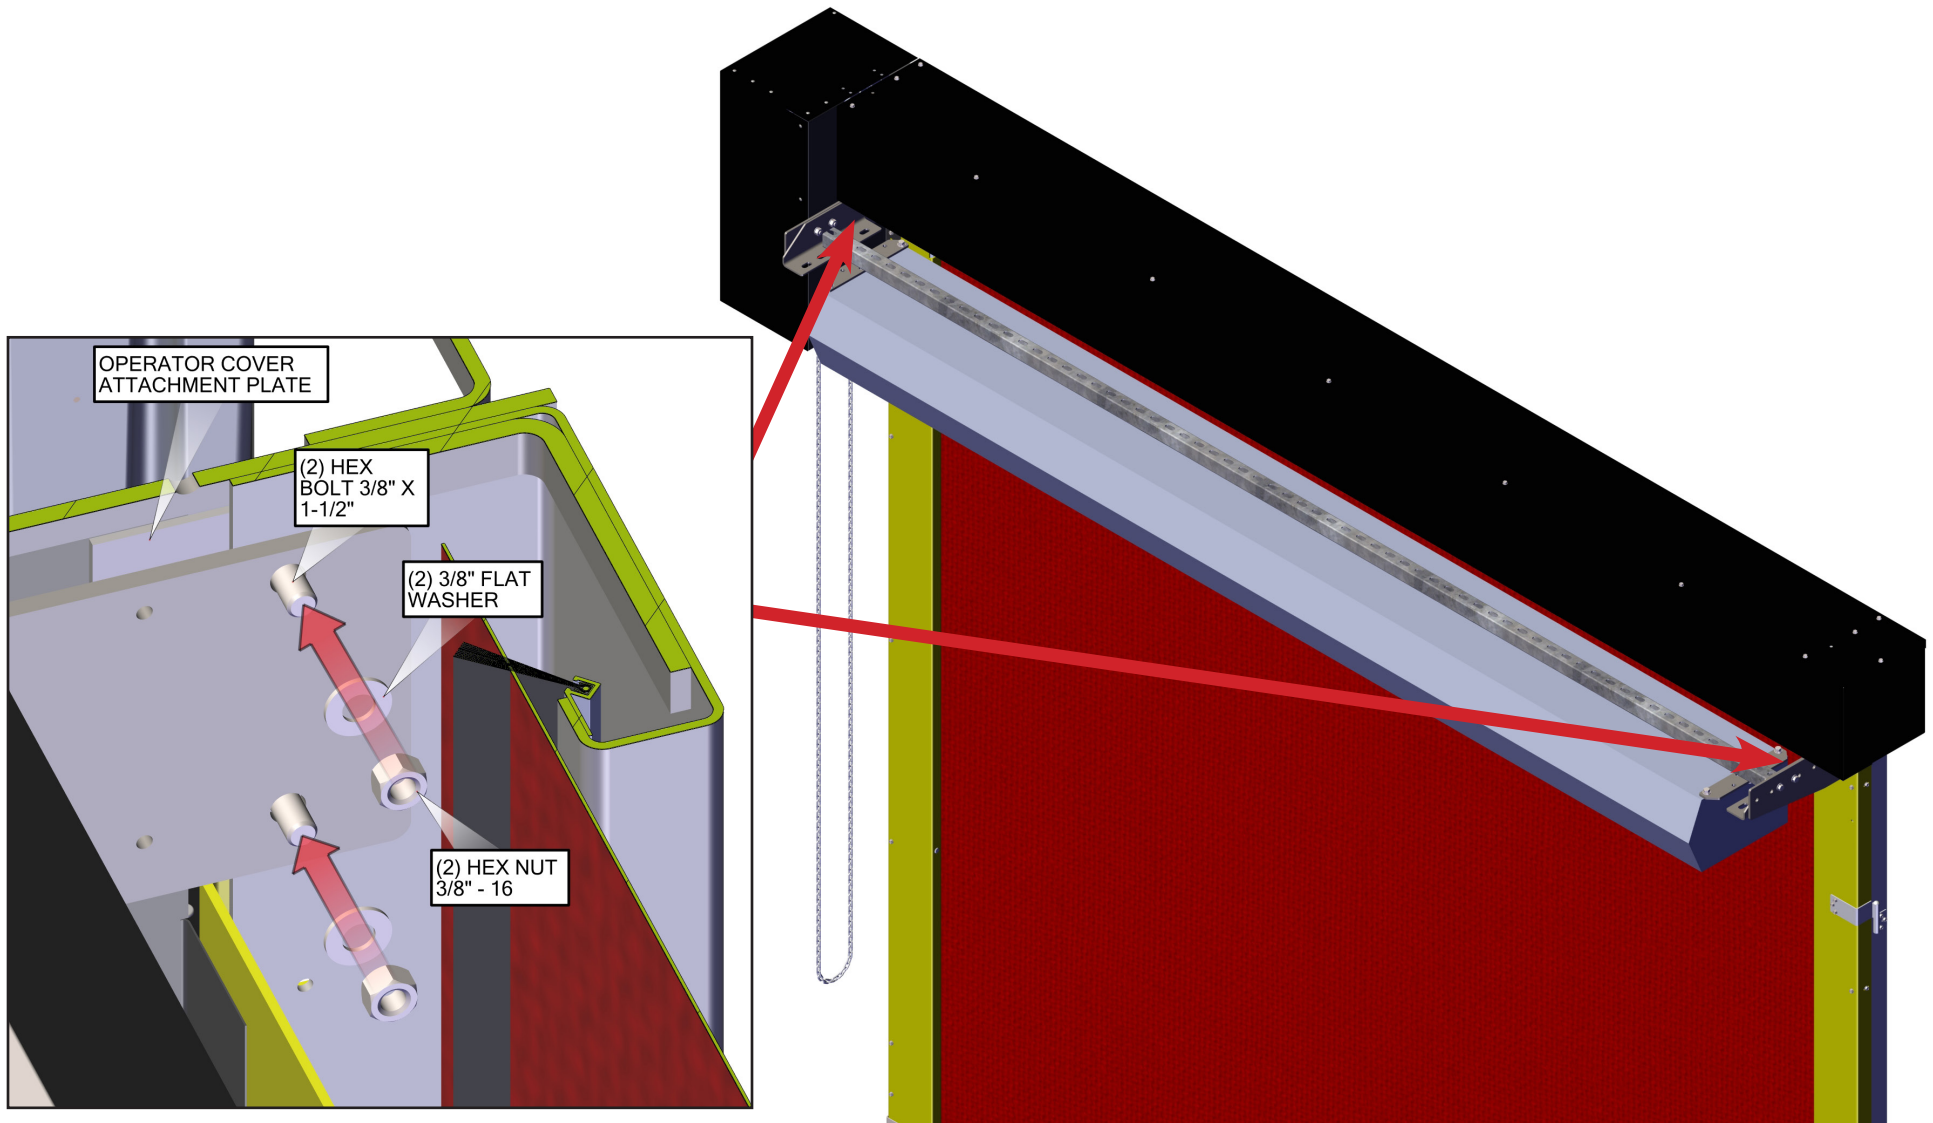

Figure 28
- Install the air curtain assembly to the door guides, see Figure 28.